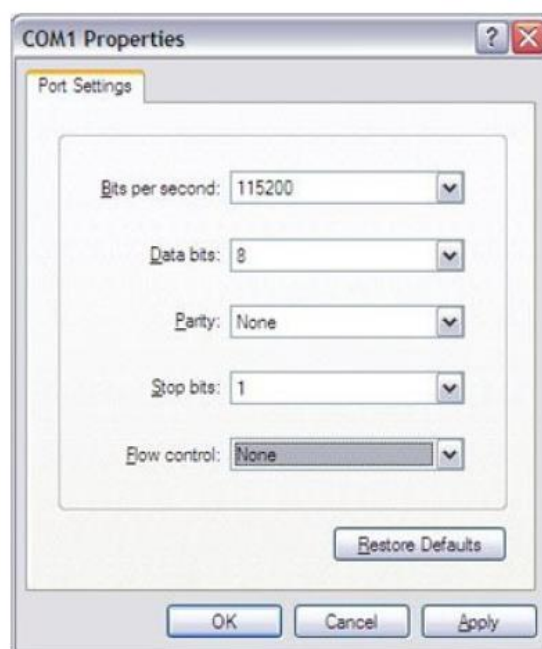

Figure 9 Hyper Terminal Settings for Terminal Setup
2. Open Hyper Terminal on your Windows PC, and select the settings as shown in Figure 9.